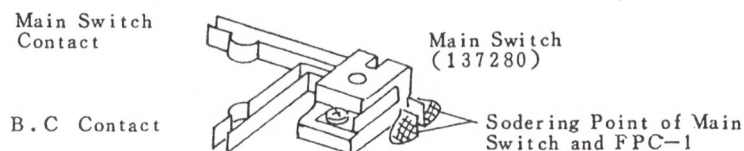

Fig 61
- (1) Bad soldering of Main Switch and FPC-1. (See Fig 61)
- (2) Malcontact of Main Switch (B.C Contact).
- (3) Bad soldering of Main LED, defective of Main LED.
- (4) Bad soldering of R4.
- (5) Bad soldering of Tr1.
- (6) Maladjustment of Battery Check Voltage.
- (7) Bad soldering between FPC-1 and FPC-2.